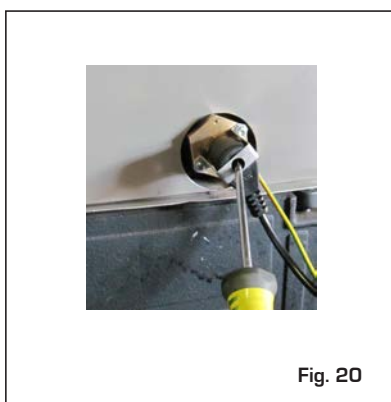

Fig. 20
2.6 SAFETY THERMOSTAT (fig. 20)